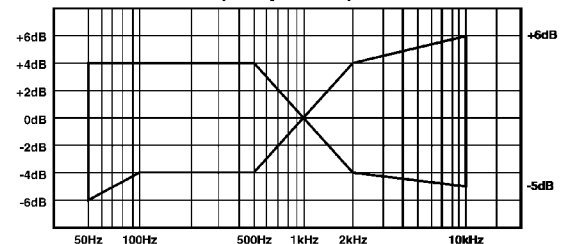

Fig. 13-9.
5. Playback the recorded signal to confirm that the output is within the range of the overall frequency response shown in Fig. 13-9.